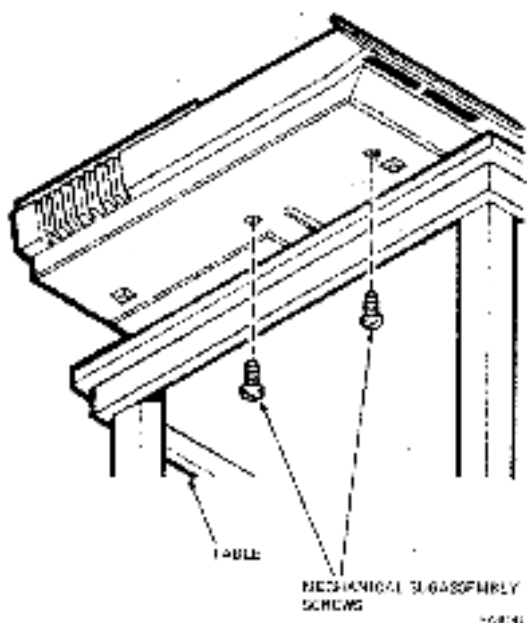

Figure 2-12 Mechanical Subassembly Screws
9. Position the left side of printer about 5 inches beyond the edge of the desk or table. Remove the two mechanical subassembly screws from bottom of printer (Figure 2-12). Perform the same procedure for the right side of printer.